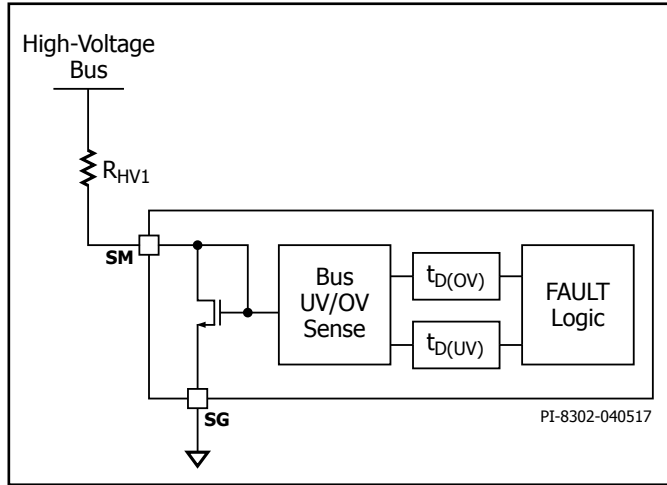
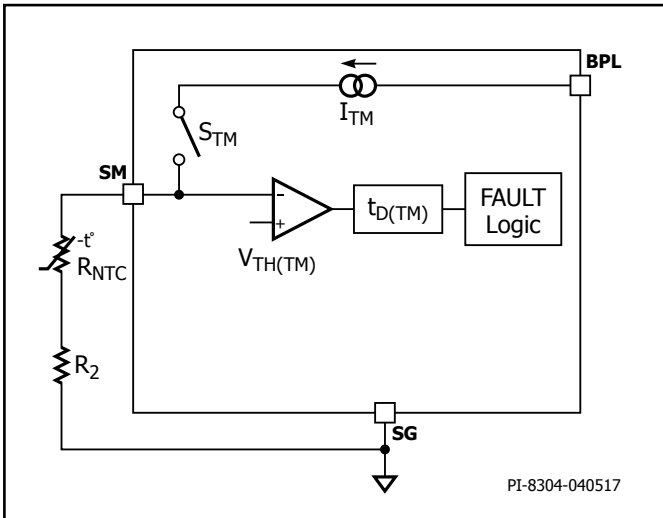

Figure 16. High-Voltage Bus Monitoring with SYSTEM MONITOR Pin.
Figure 18. External Component Thermal Monitoring with SYSTEM MONITOR Pin.
BridgeSwitch-2 provides system level status updates through the SYSTEM MONITOR input. The SM pin can be used to track either the high-voltage (HV) DC bus voltage (see Figure 16) or the temperature of an external component through an NTC thermistor (see Figure 18). The SM pin is self-configuring. It automatically detects the type of external connection and adopts the appropriate circuit configuration at power-up.
The SYSTEM MONITOR pin enables temperature monitoring of an external component through an NTC thermistor as shown in Figure 18. Resistor R_2 allows fine-tuning of the actual over-temperature threshold to achieve desired level with a given NTC resistor.
A resistor connected from the DC bus to the SM pin will increase overall inverter consumption depending on the value chosen (refer to R_{HV1} in Figure 16). For example, a 7 M Ω sense resistor consumes 16 mW from a 340 VDC bus.